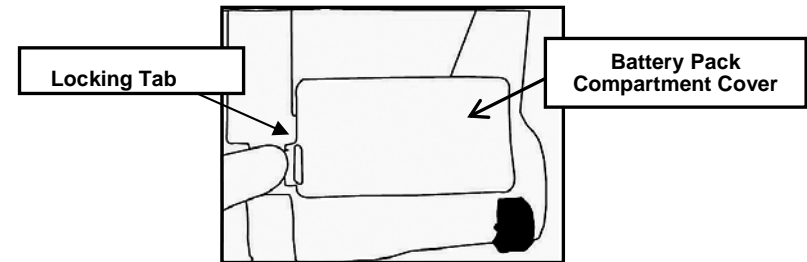

Fig. 3
2. Push in locking tab and lift off the battery compartment cover. (Fig. 3)